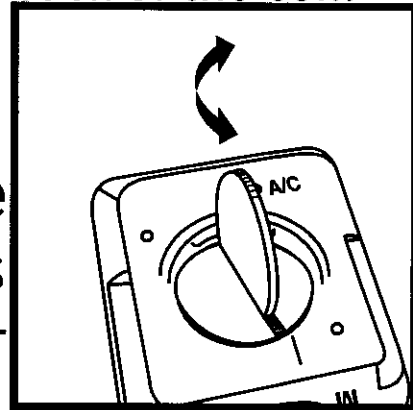

Fig. 21
2. Turn the computer in your hand so the display faces down. With a coin or similar object, rotate the battery cover on the back of the computer (Fig. 21).